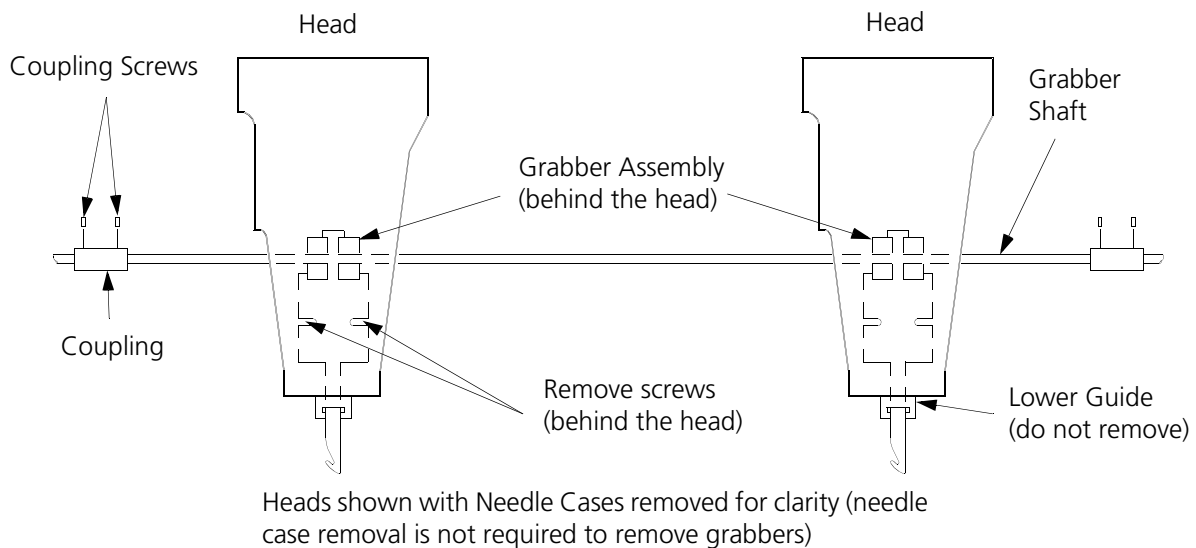

Figure 3-36
2. Isolate which grabber assembly is defective and loosen the shaft couplings on either side, referring to Figure 3-36. Slide the couplings back onto the "non-removed" shaft ends.